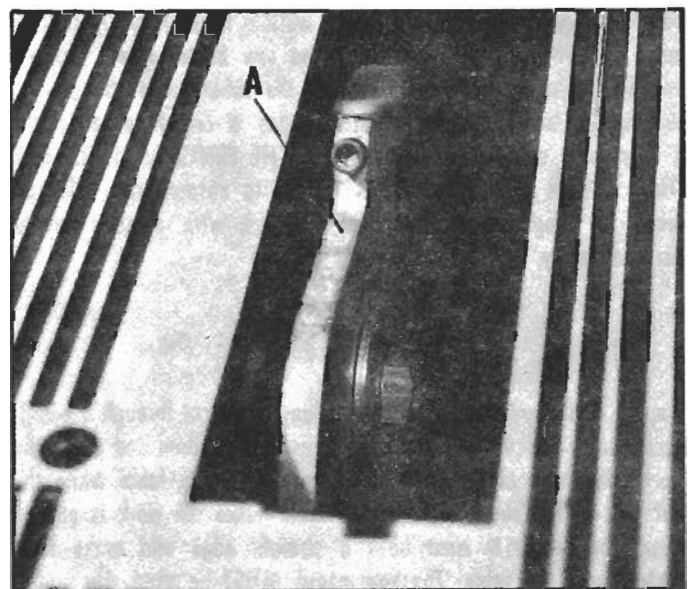

Fig. 44
The blade guard, spreader and anti-kickback pawls assembly cannot be used when moulding and must be removed from the saw as shown in Fig. 44. Loosen two nuts that hold blade guard and spreader to spreader bracket and slide spreader upward. Do not disturb alignment of spreader bracket. The moulding cutterhead (A) Fig. 44, is assembled to the saw arbor in the same manner as the saw blade. The shallow recess in the cutterhead should be toward the motor and the deeply recessed side is to provide clearance for the arbor nut. Do not use the outer blade flange with moulding cutterhead. An accessory moulding cutterhead table insert must be used in place of the standard table insert.